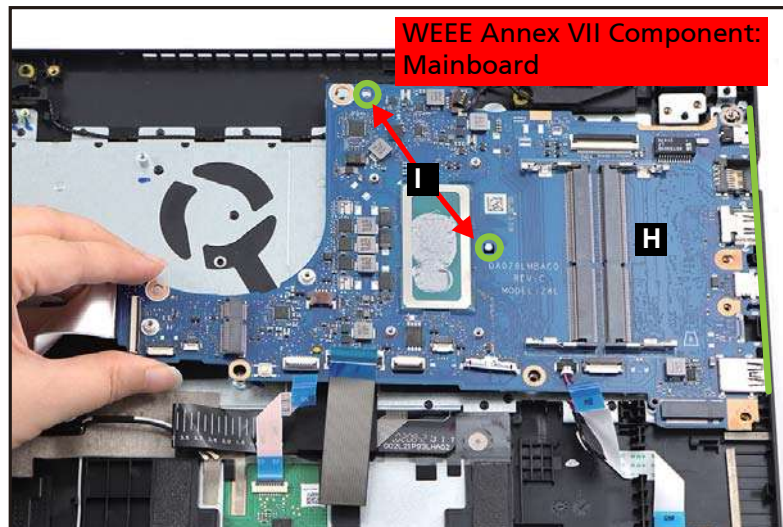

Figure 3-40. Mainboard Removal
9. Release the mainboard (H) from the I/O connectors slots and guide pins (I) on the top assembly (Figure 3-40). Then remove the mainboard.